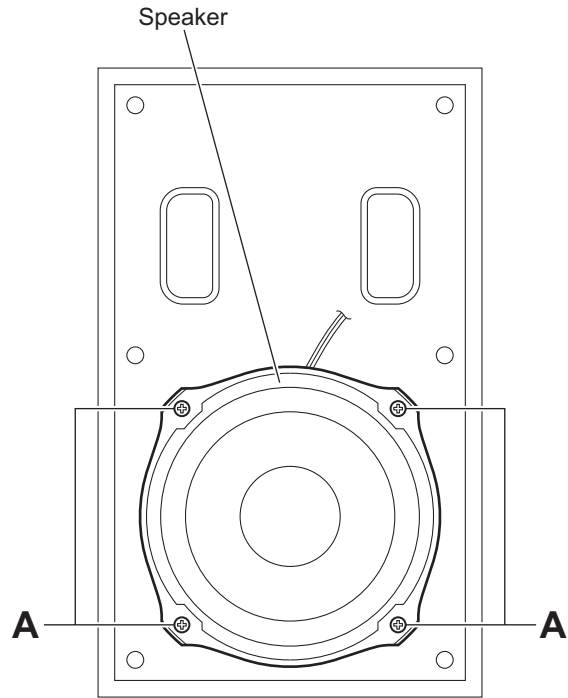

Fig.4
### 3.4.2 Removing the speaker (See Figs.4 and 5)
- From the front side of the speaker main body, remove the four screws **A** attaching the speaker. (See Fig.4.)